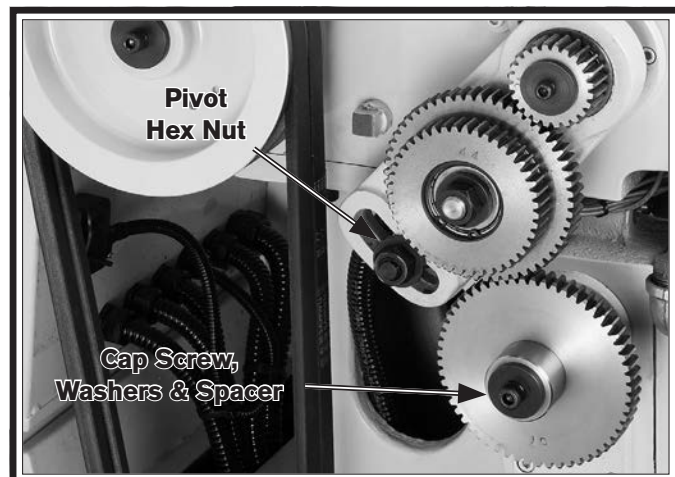

Figure 75. End gear components.
3. Remove the cap screw, lock washer, and flat washer from the bottom 57T end gear (see **Figure 75**).
4. Loosen the pivot arm hex nut shown in **Figure 75**, then swing the pivot arm to the left so that 44T/56T gears are away from the 57T gear. Hand tighten the hex nut to keep the arm in place.